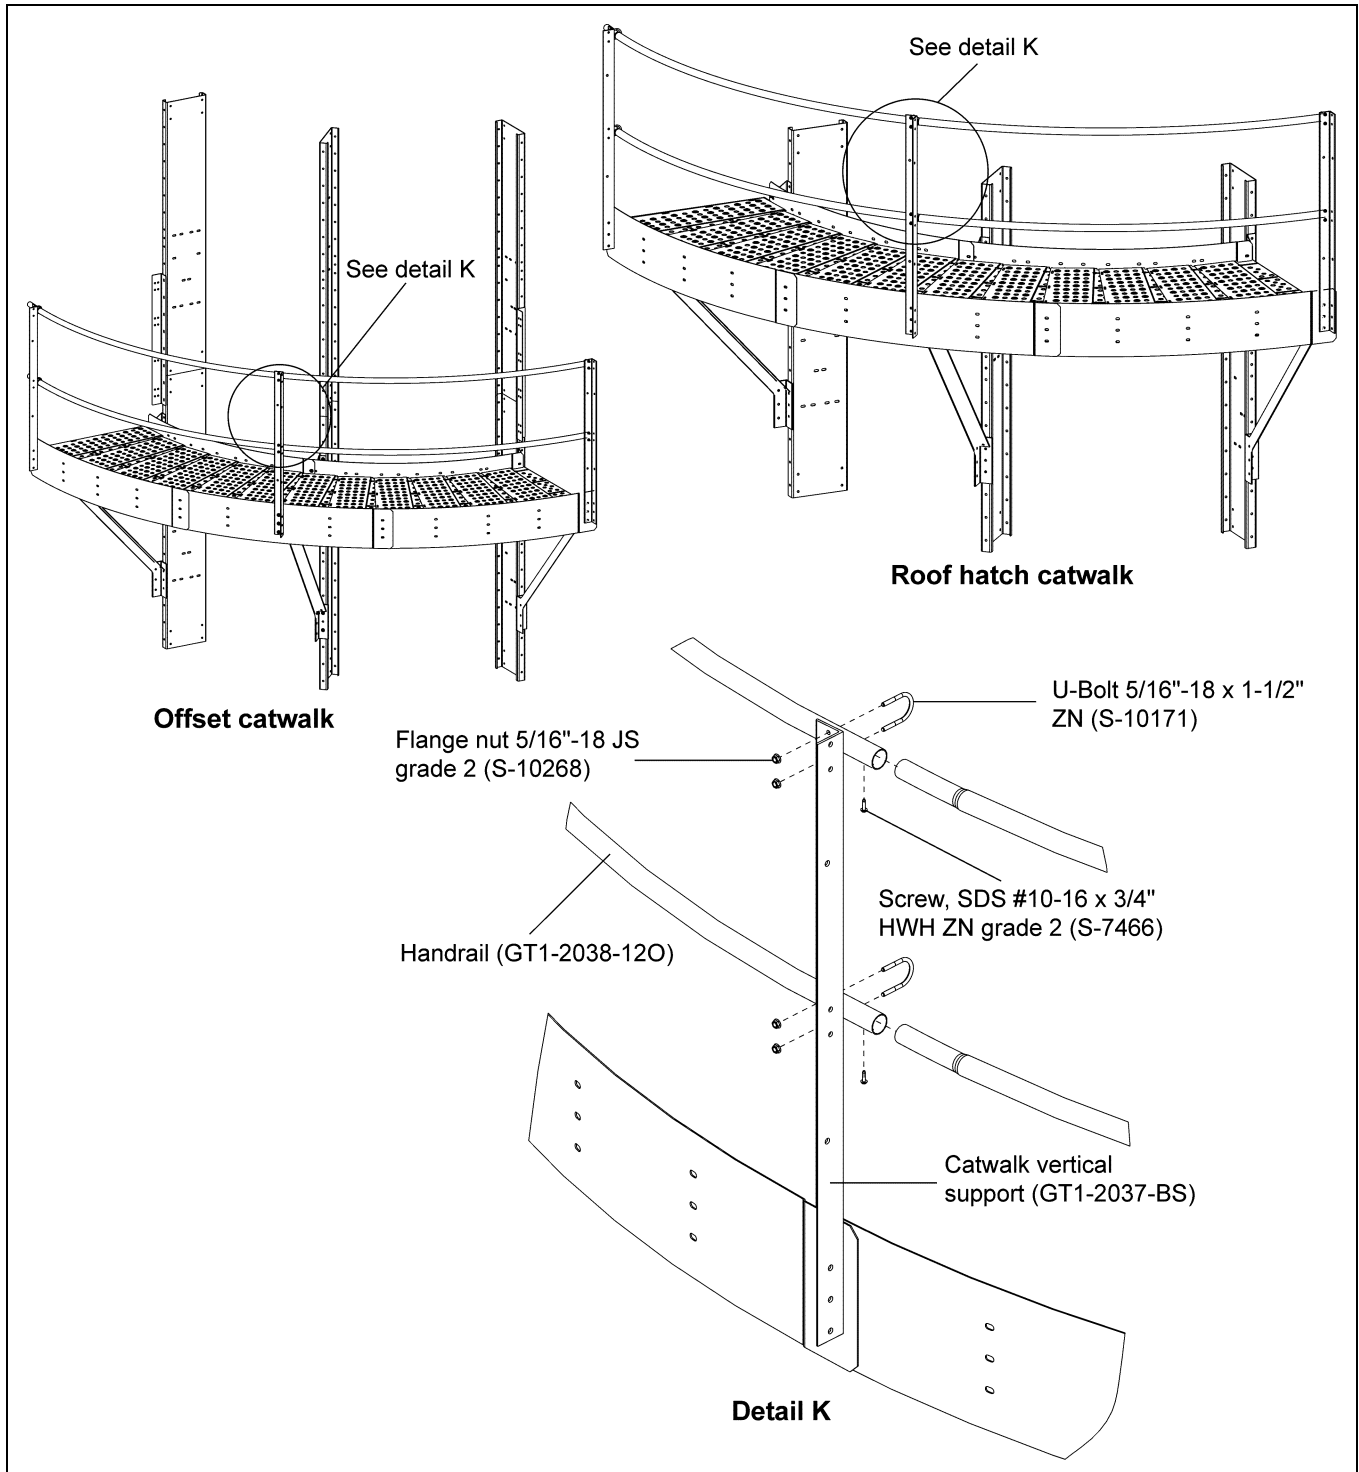

Figure 6U Handrail (GT1-2038-120) Installation for Offset and Roof Hatch Catwalks
1. Install the long handrail (GT1-2038-120) to the catwalk vertical support (GT1-2037-BS) using 5/16"-18 ZN U-bolts (S-10171) and 5/16"-18 JS grade 2 nuts (S-10268) to tighten the handrail with vertical post. (See Figure 6U.)
2. Use the self-tapping screws SDS #10-16 x 3/4" HWH ZN grade 2 (S-7466) at all handrail pipe joints. (See Figure 6U.)